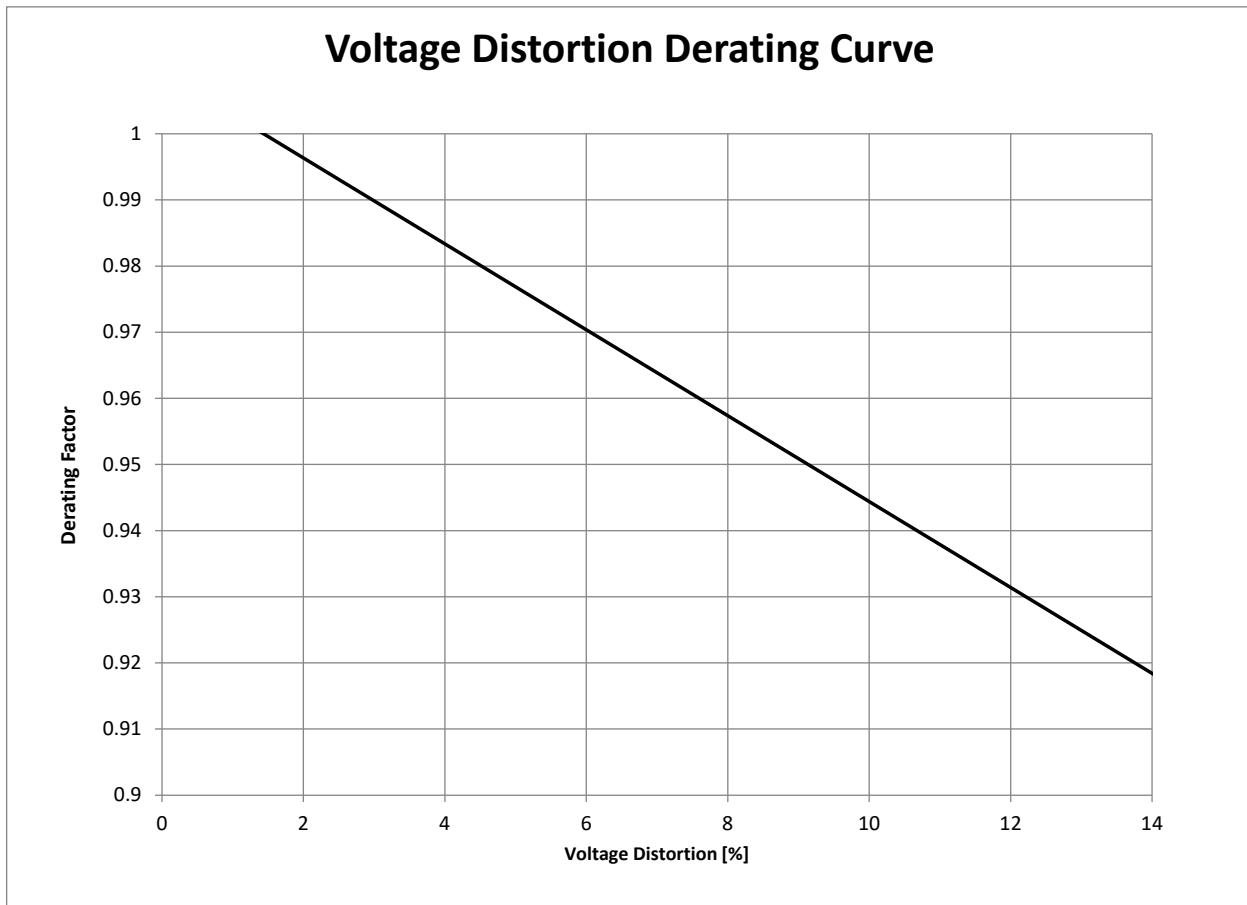

Figure 3-4: Voltage Distortion Derating Curve
- Voltage Distortion:** See Figure 3-4: Voltage Distortion Derating Curve (p10) for voltage distortion derating curve.